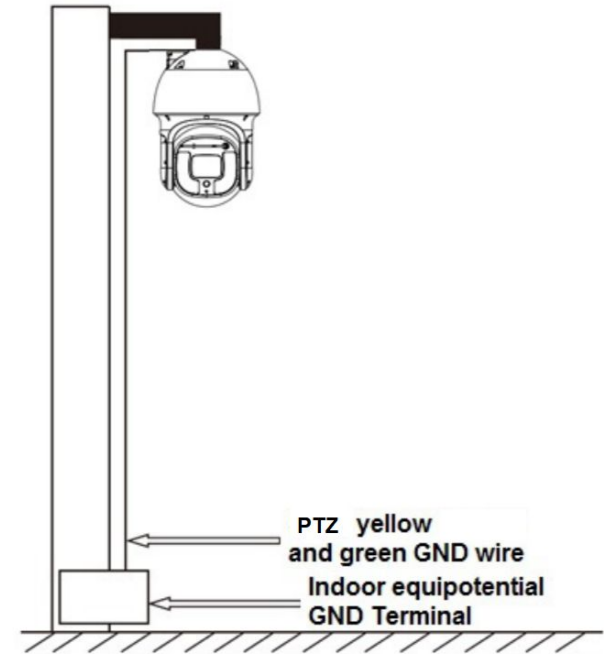

Figure 5-2
- For indoor usage, The yellow and green GND wire or GND screw of the speed dome should be reliably connected by several strands of copper wire with no less than 25mm^2 and indoor equipotential GND terminal. Please refer to Figure 5-2 for lightning proof installation mode.